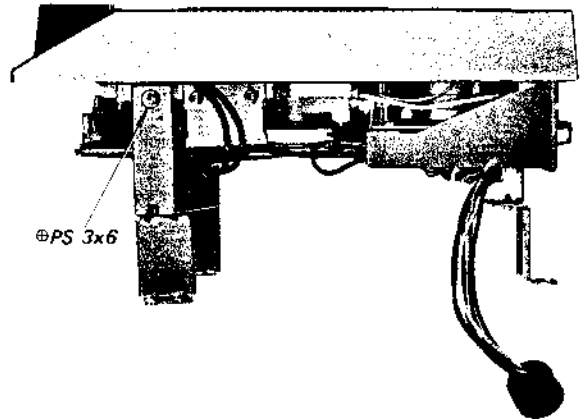

Fig. 2-5 Chassis bracket removal (1)
2. Remove the three screws (ØP 3x6, ØP 2.6x4) securing the brackets to the chassis as shown in Fig. 2-5 and Fig. 2-6.